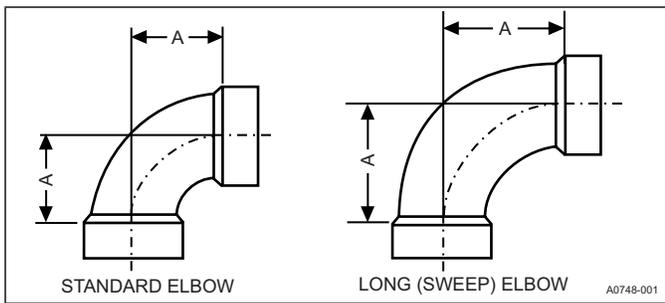

FIGURE 21: Elbow Dimensions
1. Drain, waste, and vent (DWV) elbows with a long radius (sweep) are recommended. Standard DWV elbows may be used, but since they have a longer equivalent length, they reduce the total length of pipe that is allowed. Short radius (plumbing or pressure) elbows are not allowed for venting. The standard dimensions of the acceptable elbows are shown in Figure 21.
Elbow	A Dimension (Illustrated in Figure 21)